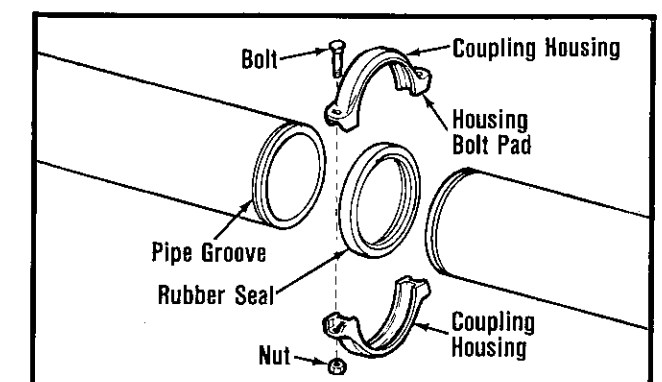

Figure 26. Typical Mechanical Coupling
8. Periodically check Groove Depth with a mechanical coupling (Figure 26). The coupling should fully seat in the groove without binding or excessive play.